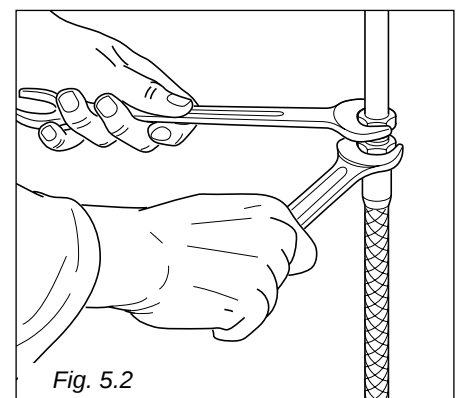

Fig. 5.2
- ✓ For oven gas connection operate with 2 spanners (fig. 5.2).